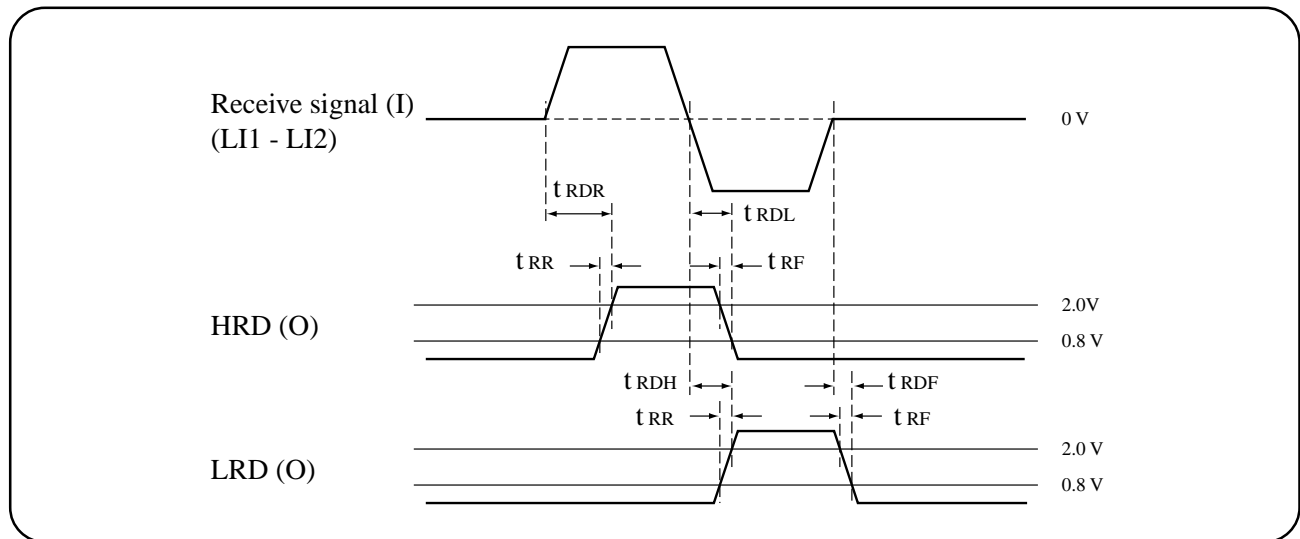

Figure 5.2 Receive Timing
**Note 3** Figure 5.2 shows the timing when RDP = "H". When RDP = "L", the output signal polarity from HRD and LRD pins are inverted.